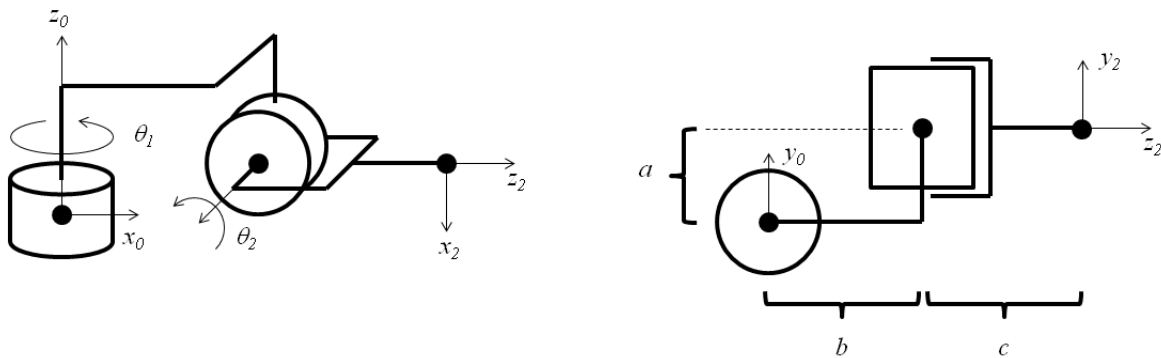

Figure 1: Left: Front view of arm. Right: Top-down view of arm. In this figure, all joint angles are shown at  $0^\circ$ .
1. Consider the RR arm shown in Figure 1.